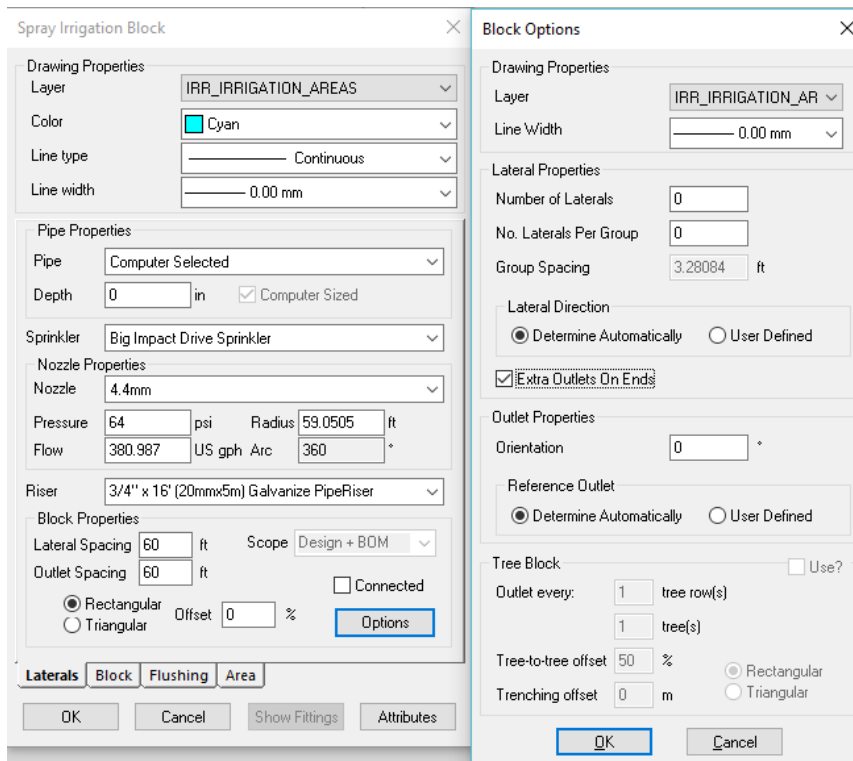

Figure 4-71
11. Now select *Zone/Spray Irrigation Block*. On the *Laterals* tab, leave the pipe as **Computer Selected**. Select the **Big Impact Drive Sprinkler** and the **4.4mm “Nozzle”**. Change the “**Pressure**” for the nozzle to **64psi (45m)**. The “**Radius**” will change to 59.05ft (18m). Select the **3/4” x 16ft (20mm x 5m) Galvanized Pipe Riser** and change the “**Lateral**” and “**Outlet Spacing**” to 60ft (18m) each. Leave the “**Outlet Spacing Properties**” as “**Rectangular**” and **0%** “**Offset**”. Uncheck the “**Connected**” checkbox. Leave the “**Scope**” as **Design + BOM**. Click the [Options] button and check the “**Extra Outlets on Ends**” checkbox as in Figure 4-71. Click [OK] on both dialogs.